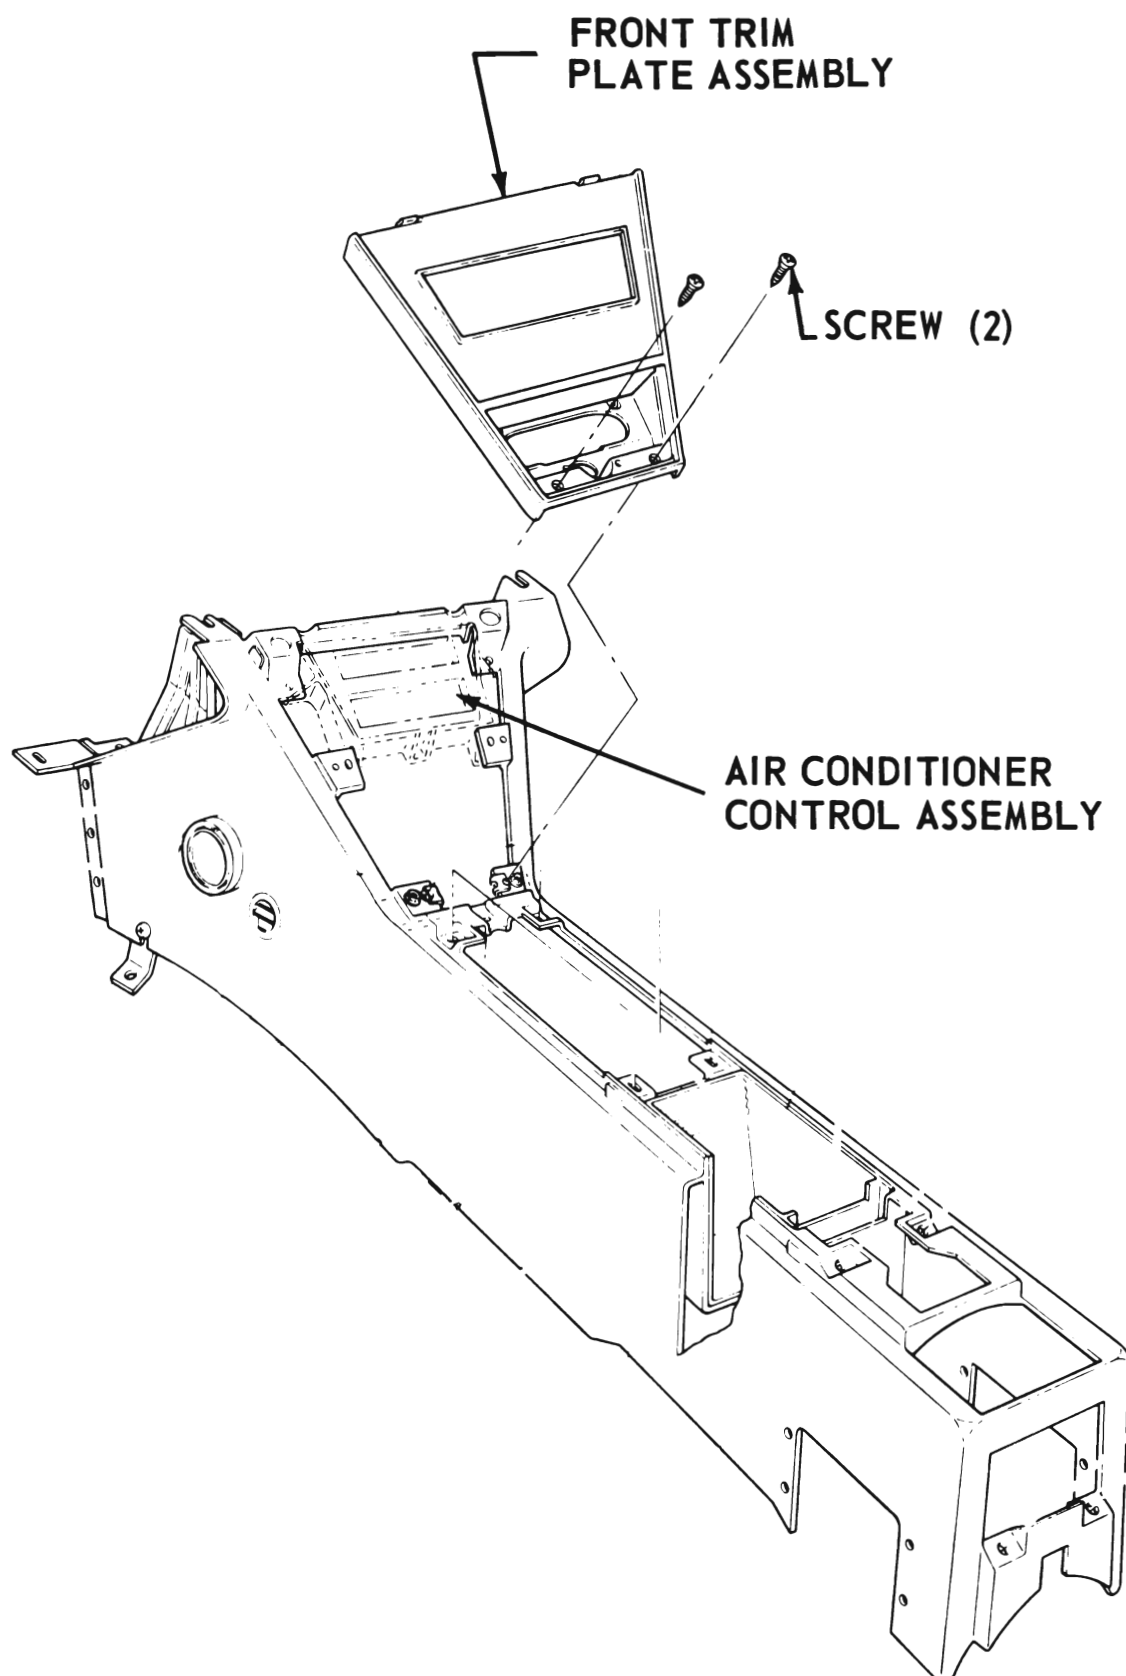

Figure 11-6—Center Console Front Trim Plate and Air Conditioner Control Assembly - 49000 Series
1. Remove two screws from center console front trim plate assembly (see Figure 11-6) and partially lift up front trim plate.
4. Remove four screws and lower air conditioner control assembly (see Figure 11-6).